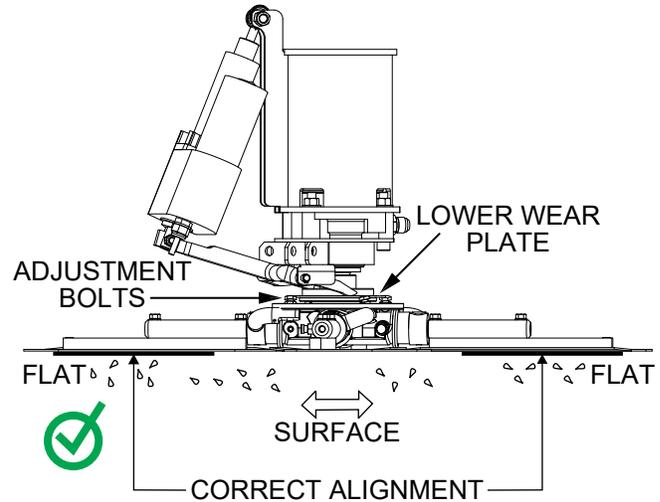

Figure 43. Correct Spider Plate Alignment
2. Pitch the blades as flat as possible. The adjustment bolts should all barely make contact with the lower wear plate on the spider. Figure 43 illustrates the correct alignment for a spider plate as shipped from the factory.